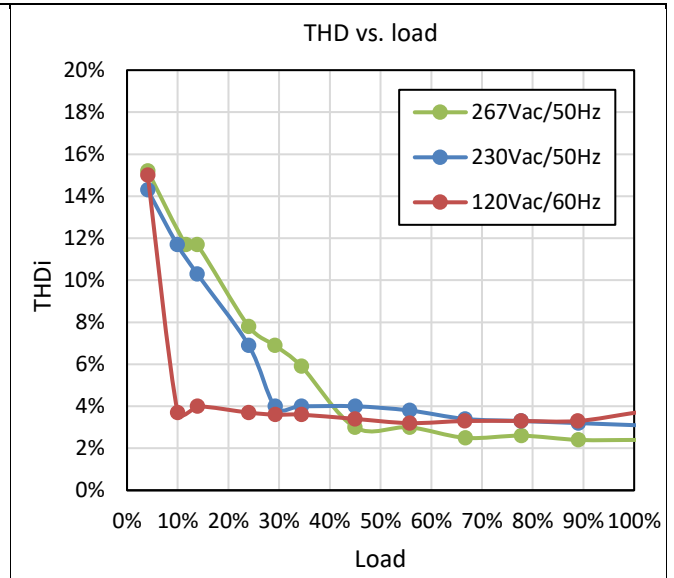

Figure 13 THD vs. load
**Figure 13** provides the THD result at various load and input conditions. It can be seen that the THD is smaller than 10 percent when load is more than 10 percent of the maximum power over the full input ranges.